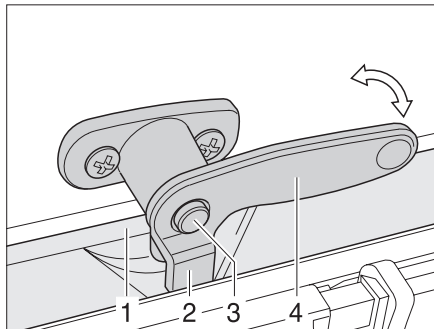

Fig. 45 Catch lever with safety knob in "closed" position
- ▶ If it exists, press the safety knob (Fig. 45,3) down and hold it.